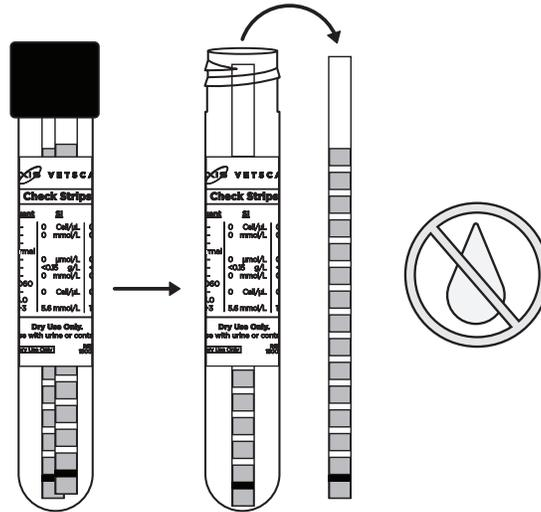

Fig. 20 Check Strip tubel and strip
1. A Check Strip is an artificial test strip that is intended to be run DRY, with no sample or liquid, in order to test the UA analyzer for proper operation. Run a Check Strip if the analyzer is being used for the first time, has not been used for more than 1 year, or is providing unexpected results. Two (2) identical Check Strips are provided with the VETSCAN UA analyzer kit. Only use Check Strips that are undamaged, not discolored and are not broken.
- Carefully remove a Check Strip from the tube to prevent contamination of the strip. (Fig. 20)